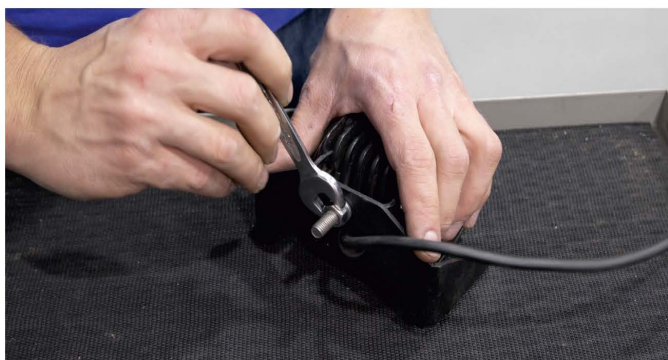

Fig.44
44. Fix your aftermarket LED cubic lights to brackets (item 33). These brackets are not compatible with flush mount LED lights (part number 2D.0041.1, purchased separately) (fig.44).